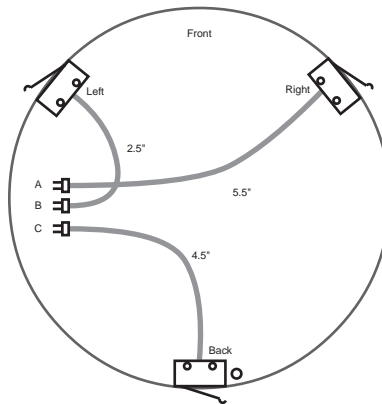

Figure 4.8: Position and orientation of bump sensors.
- Attach the three bump switches to the top of the chassis as shown in Figure 4.8, using the 2-56 screws and washers. Attach the bump switches only loosely as they will need to be adjusted when mounting the skirt.